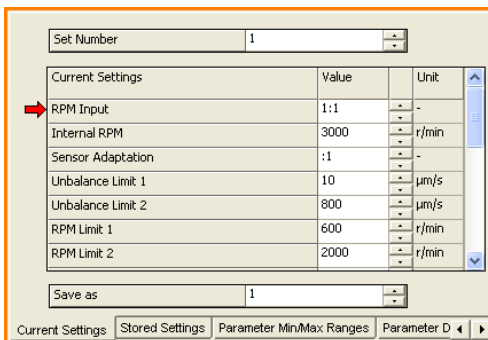

Figure 6-28
- When "RPM Input" is set to "Internal" (refer to Figure 6-28) the RPM Limit 1 is NOT monitored!
- When "RPM Input" is set to "Internal" (refer to Figure 6-28) the RPM Limit 2 is NOT monitored!